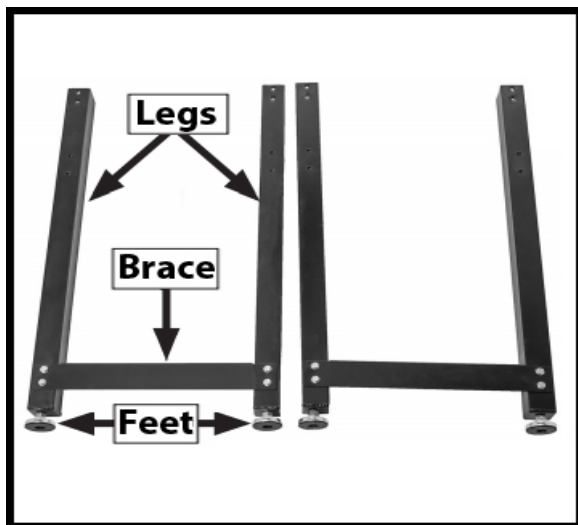

Figure 12
1. Locate the four table legs and two lower braces. Using the 5/16 -18 x 1/2" flange bolts, attach the lower braces to the legs as shown in (Fig.12).
2. Install the (4) adjustable feet to the bottom of the table legs, as per (Fig.12).